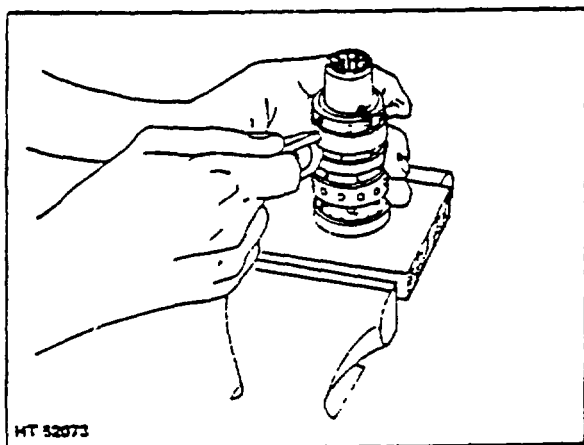

Figure 15. Loosening Spool Assembly
17. Holding the spool assembly, push the cross pin to loosen it from the spool-sleeve assembly (Fig. 15). Remove the cross pin and set it aside.